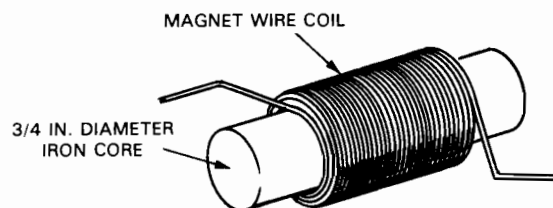

Fig. 6-3-1
4. Loosely wind magnet wire around 3/4 in. diameter iron bar. Bar should slide freely in and out of coil when winding is completed. See Fig. 6-3-1.